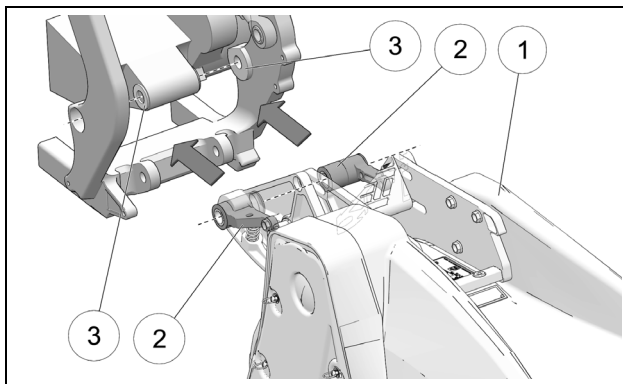

Figure 22
- Slide the YETI Conversion System (1) into position to align Bike mount adapters (2) where your bike's swing arm (3) used to be. See Figure 22.